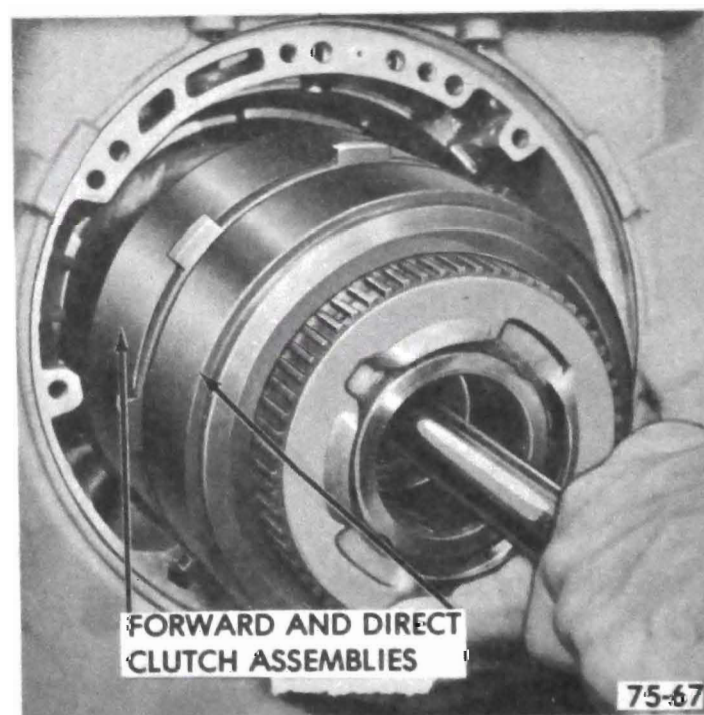

Figure 75-97
1. Remove direct and forward clutch assemblies from case. See Figure 75-97.